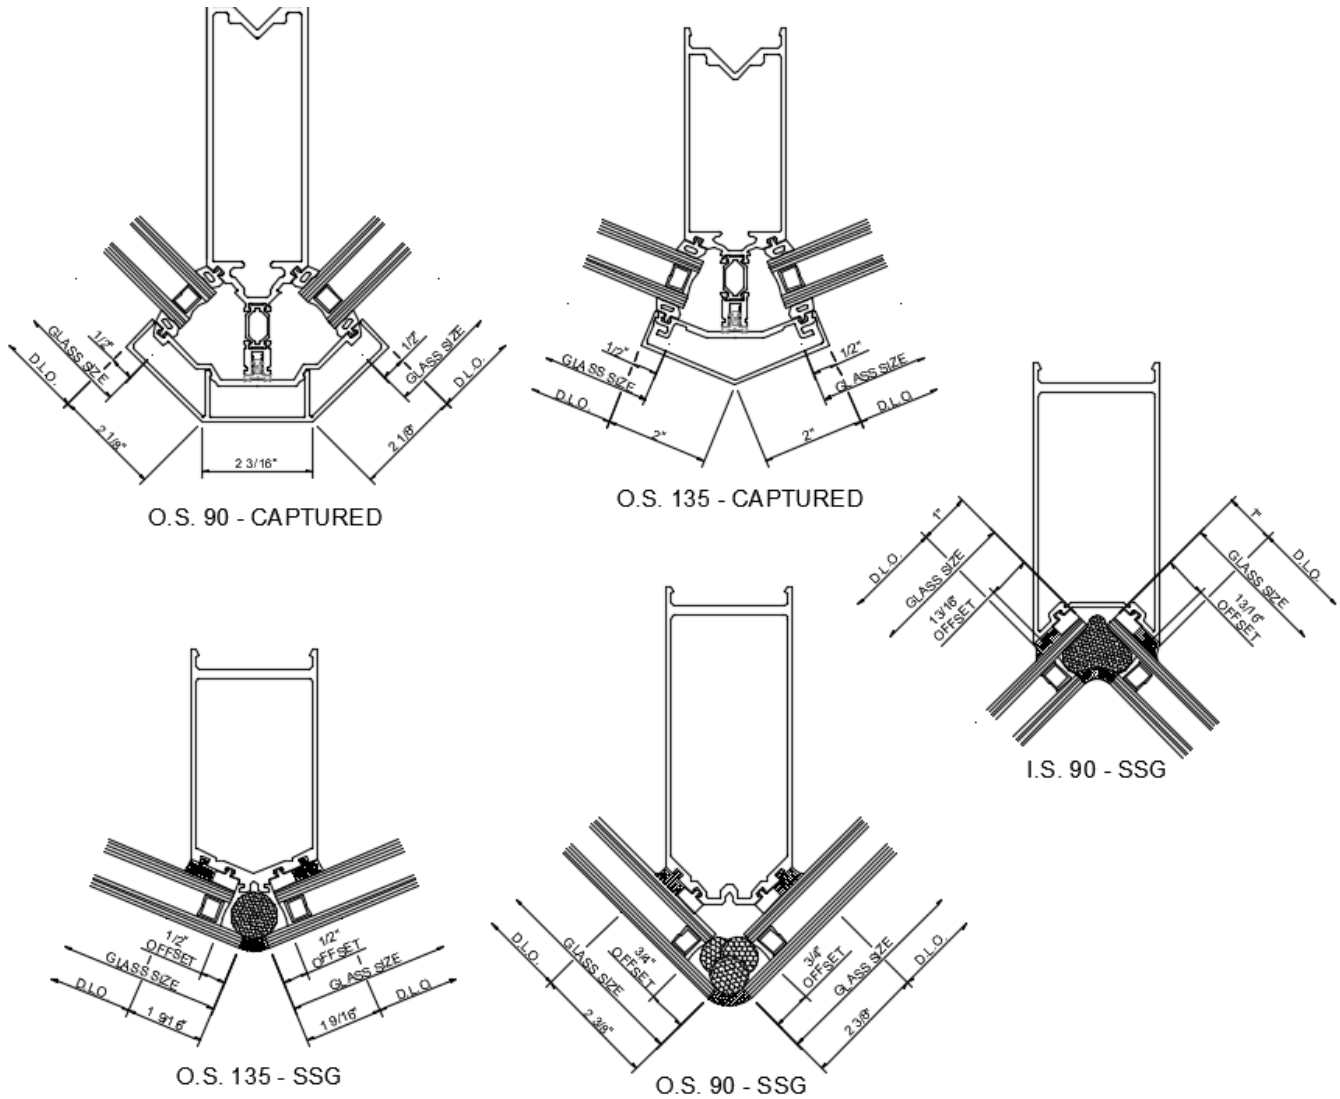

Figure 1: Glass Sizing
1.2 Corner Glass Size Calculation: See Figure 1